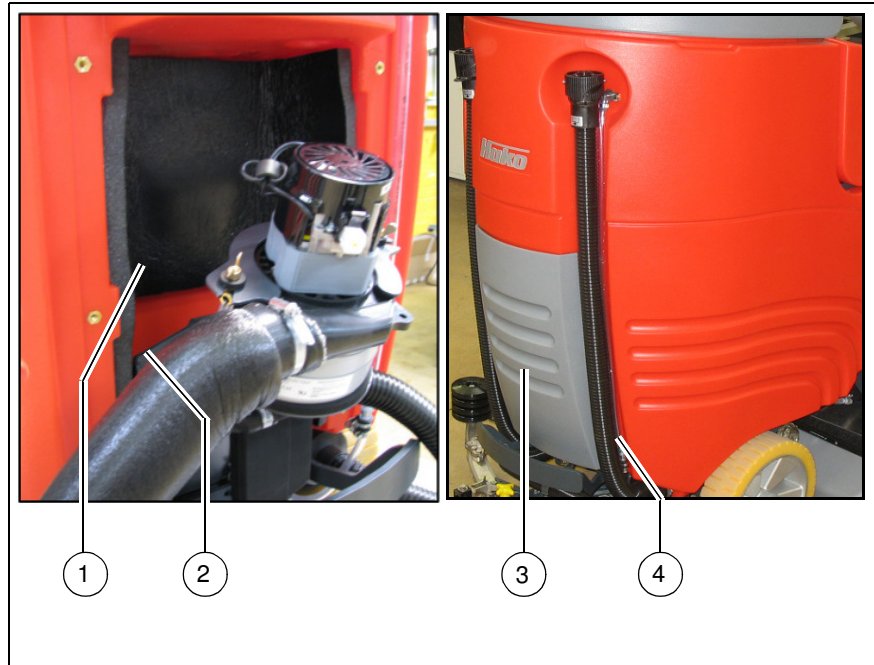

Fig. 2
4. Adhere the insulation pad (Fig. 2/1) in place.
6. Reassemble the holder (Fig. 2/2), cover (Fig. 2/3) and fill level indicator (Fig. 2/4).